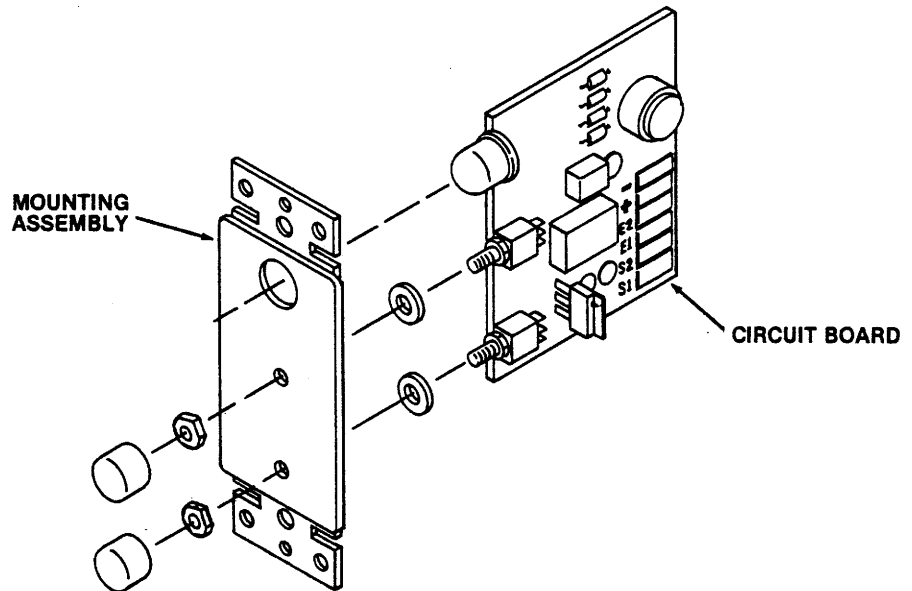

FIGURE 2
2. Attach the circuit board to the mounting assembly by removing push buttons, hex nuts, and washers from switches and inserting switch studs through holes in mounting assembly. Secure with the hex nuts and washers and re-attach push buttons. See Figure 2.